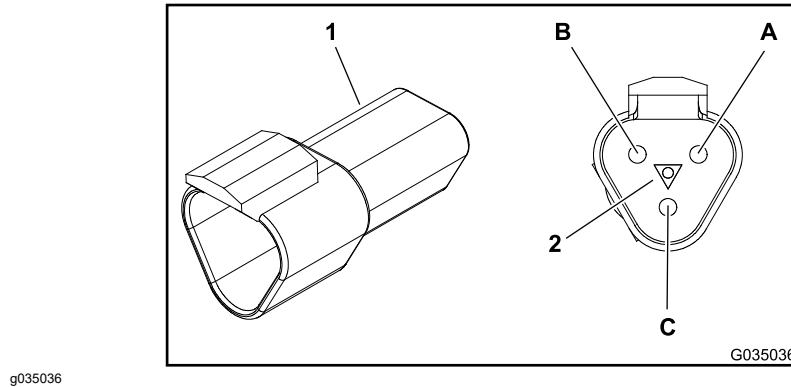

Figure 237
1. The CAN-bus terminator resistor (Figure 237) can be tested using a digital multimeter (ohms setting). Locate the CAN-bus terminator resistor and remove the cable tie that secures the resistor to the wire harness. Unplug the resistor from the wire harness for testing.